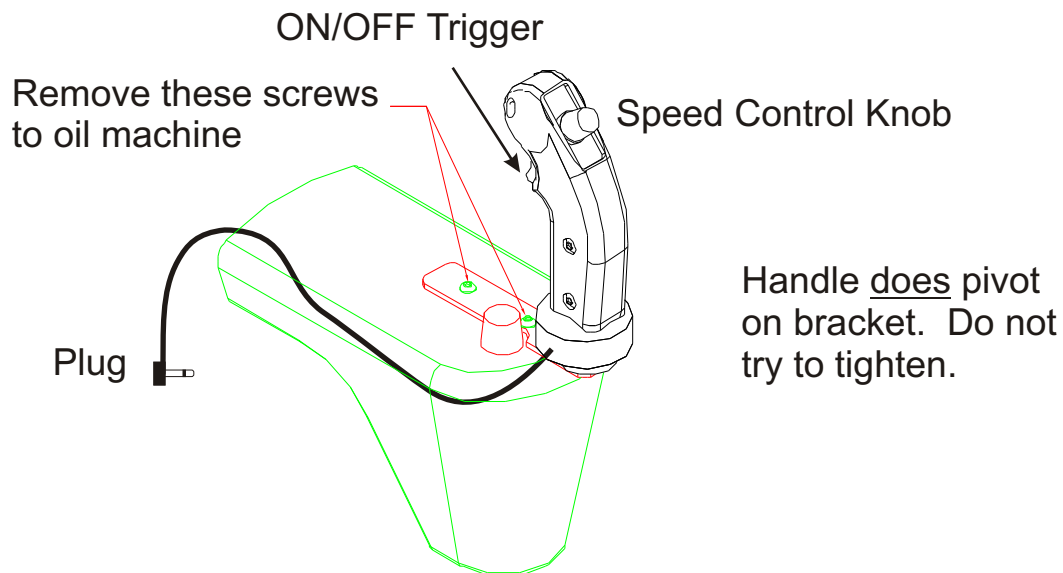

Fig. 1 Installed **JANDS** Assy.
1. Using the 2 supplied tapping screws, attach the JANDS handle bracket as shown in Fig. 1.